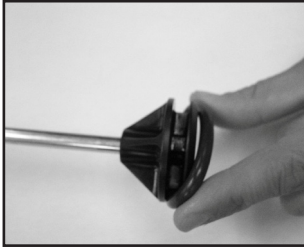

Figure 4
3. Inspect o-ring. If worn or damaged, remove and replace. Lubricate o-ring with petroleum jelly. **(See Figure 4)**